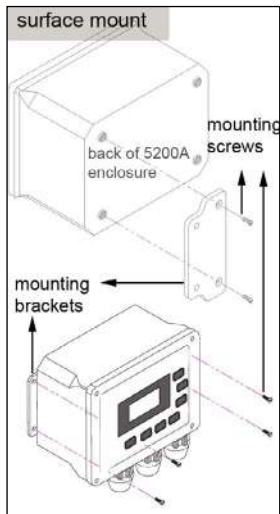

Figure 3.2
1. Fasten the mounting brackets to the back of the IOEM and REM with the mounting screws - figure 3.2.
3. Fasten the IOEM and REM mounting brackets to the mounting surface with the mounting screws provided - figure 3.2. Make sure screws adequately secure IOEM and REM to surface.
2. Fasten the mounting brackets to the back of the IOEM and REM with the mounting screws as shown in figure 3.2.